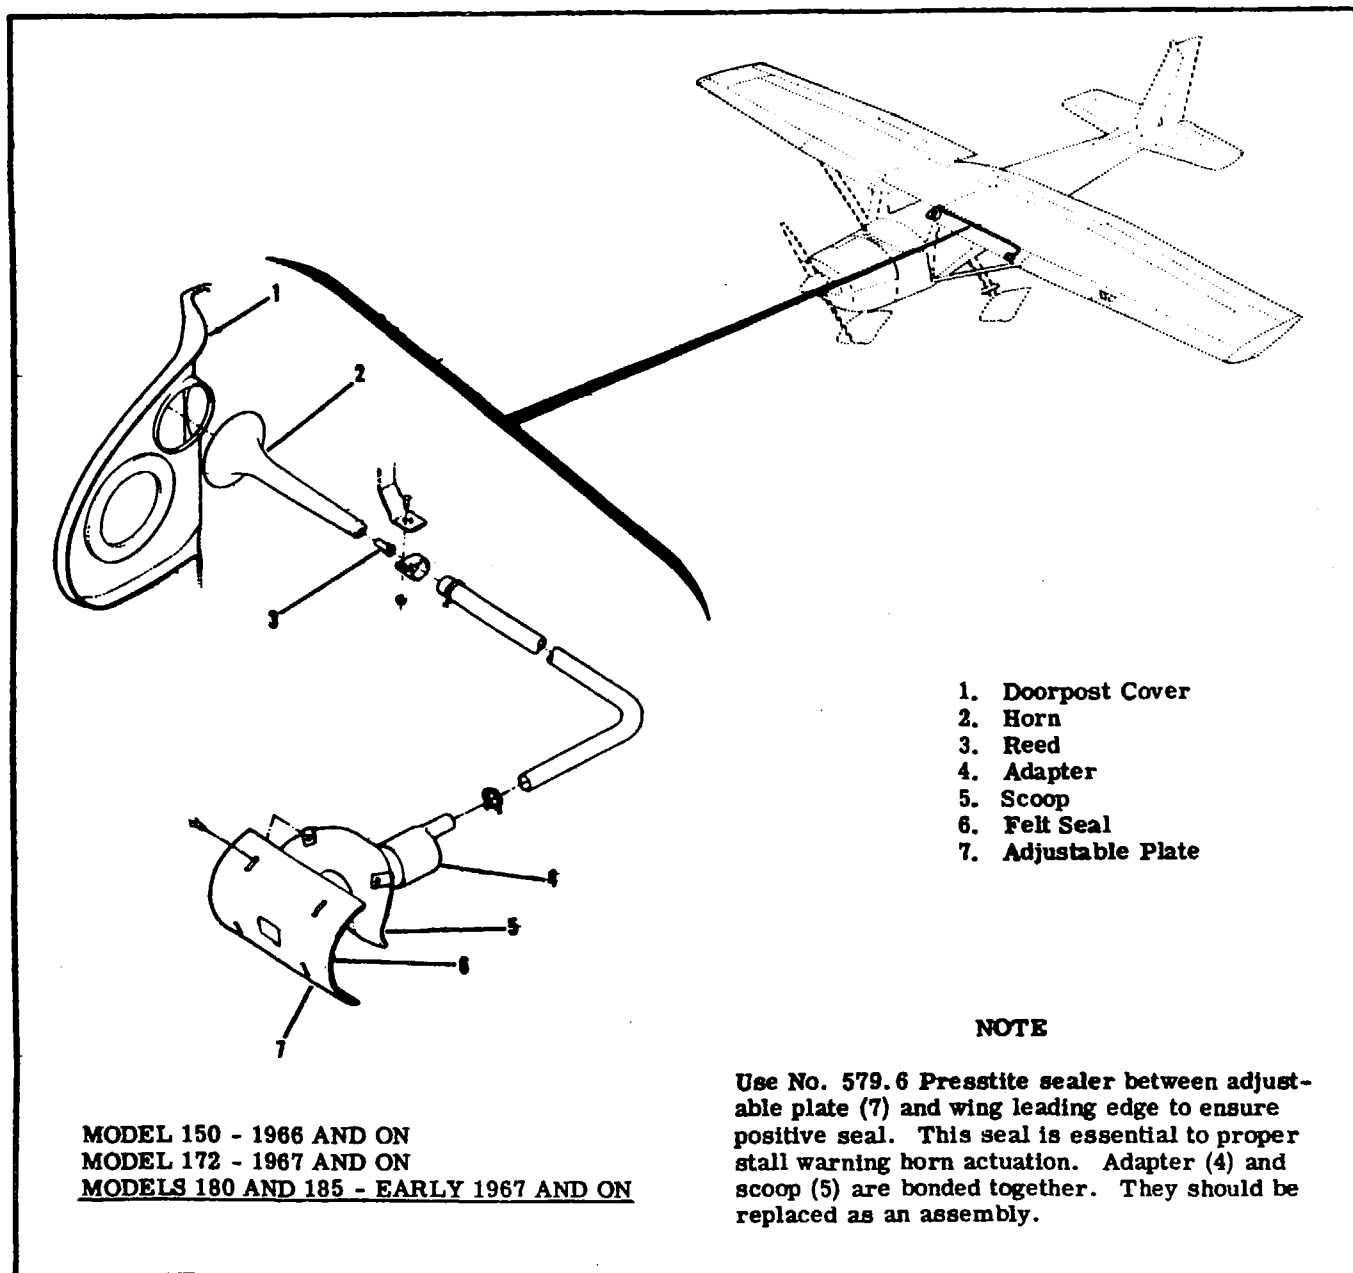

Figure 16-10. Pneumatic Stall Warning System
(See figure 16-10.) The system is composed of an adjustable plate on the left wing leading edge that is connected to a reed type horn by means of plastic tubing. The horn is actuated approximately 5 to 10 miles per hour above stalling speed as a negative air pressure area at the wing leading edge causes a reverse flow of air through the horn. By moving adjustable plate (7) up, actuation of the horn will